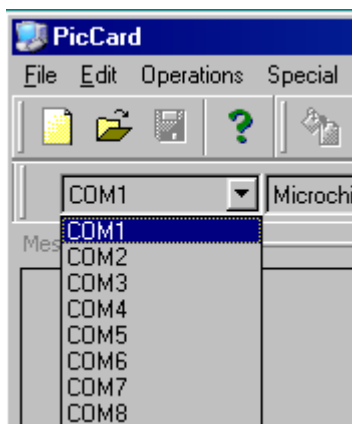

Figure 1
1. Select the COM port for the programmer from the main window of the programmer software (Fig. 1). The Communications Port Setup will be done by the PICCARD-1 software automatically.